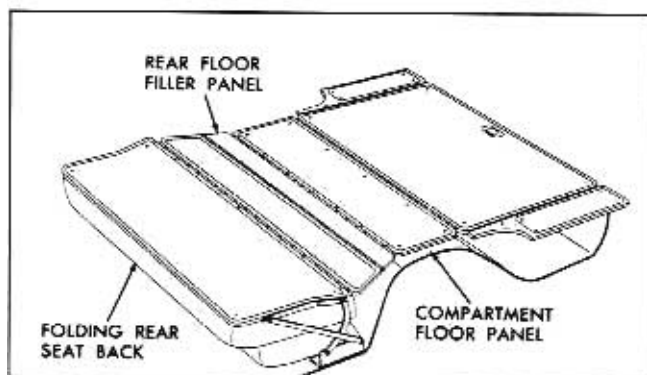

Fig. 10A-74 Folding Rear Floor Filler Panel Assembly
2. Remove filler panel to folding seat back attaching screws and filler panel to rear seat pan attaching screws as shown in Fig. 10A-74 and remove filler panel from body.